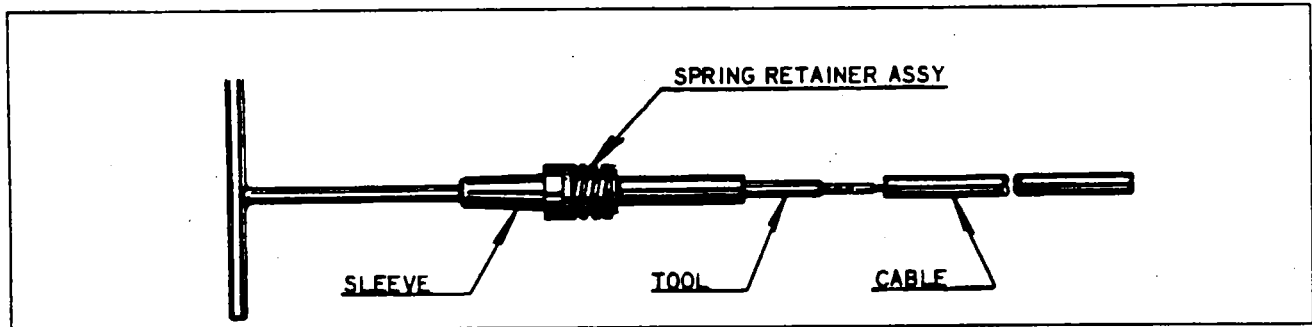

Figure 8-22. Using Assembly Tool
- (b) Push the tool thru insulating sleeve and spring retainer assembly as shown in Figure 8-22. Screw the cable terminal into the tool.